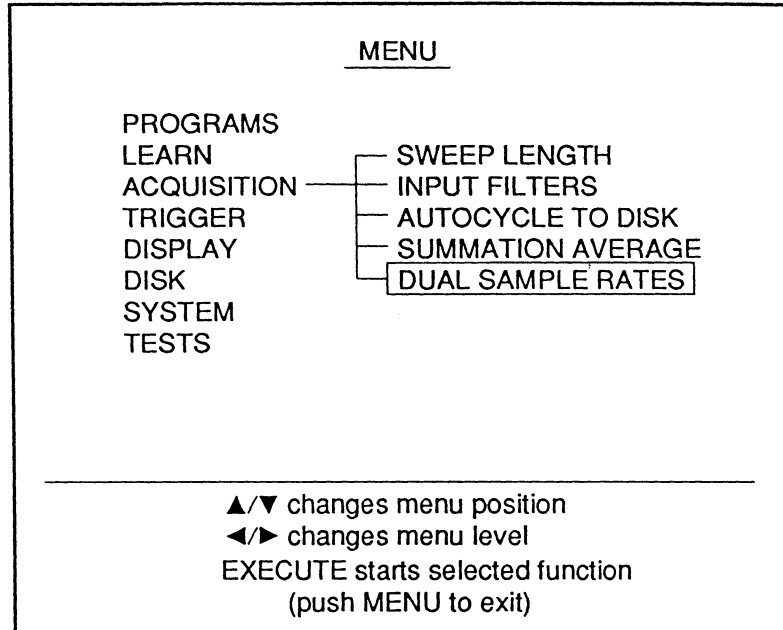

Figure 1 - Dual Sample Rates
1. Press the Menu button. The Menu screen appears (Figure 1).
2. Using the Cursor buttons, select the ACQUISITION menu and then select DUAL SAMPLE RATES as shown in Figure 1.
6. To set the Time Per Point value for channels 1 and 2, highlight the left value (Figure 1) by pressing the Select button and then adjusting the Time control knob until the desired setting appears.
For example, if you set channel 1 to 500 nS and channel 3 to 1.0 μS as shown in Figure 1, select channel 1 as the trigger source.